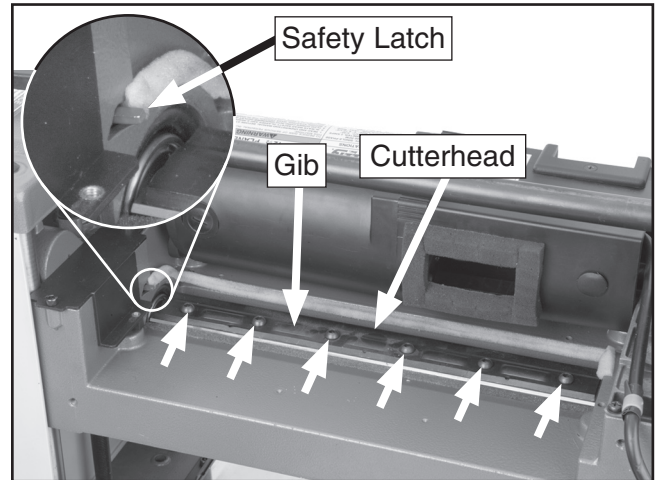

Figure 20. Exposed cutterhead.
3. Wearing gloves, carefully turn the cutterhead towards you until the safety latch engages and the cutterhead no longer turns (**Figure 20**).